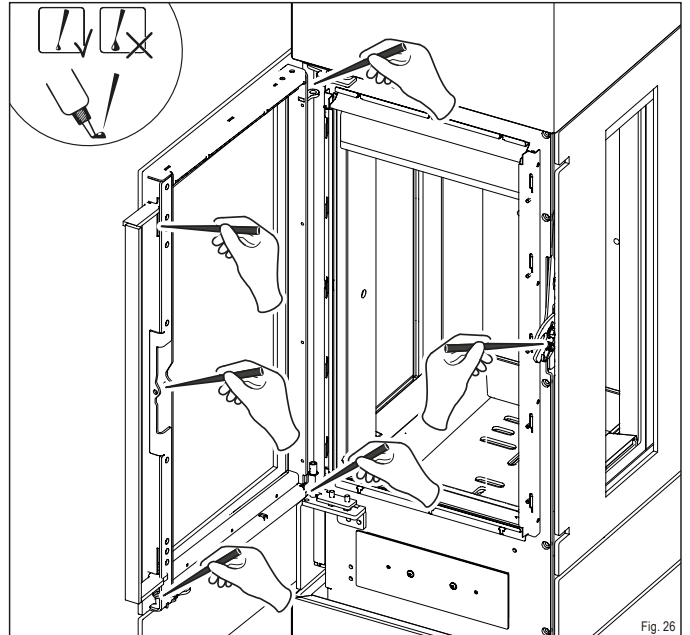

Fig. 26
- ▶ Lubricate the points with the speciality grease from the starter kit (Fig. 26).